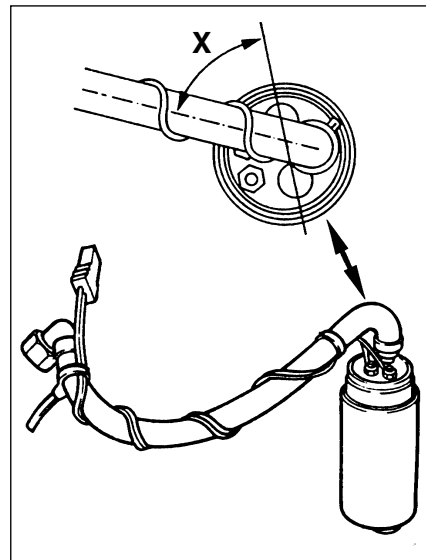
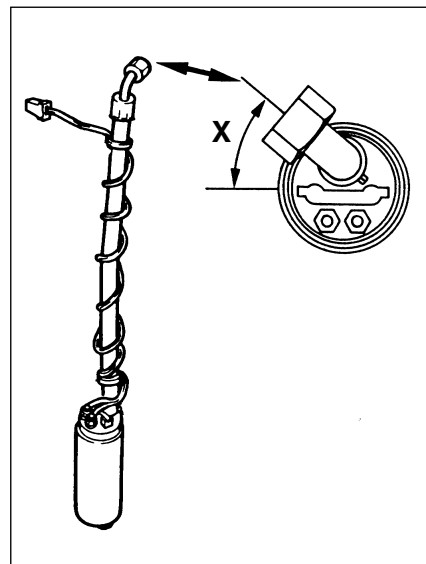

Abb. 4
Abb. 5
- In case of shaped hoses or hoses with angle screwing between pump and flange, the position (X) must be used for reinstallation, see example in fig. 4 and fig. 5.